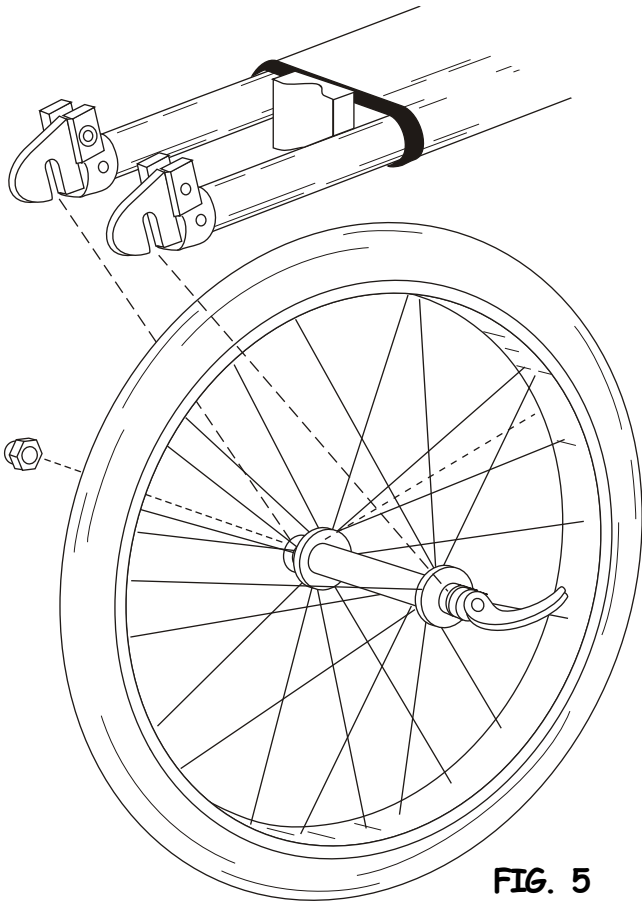
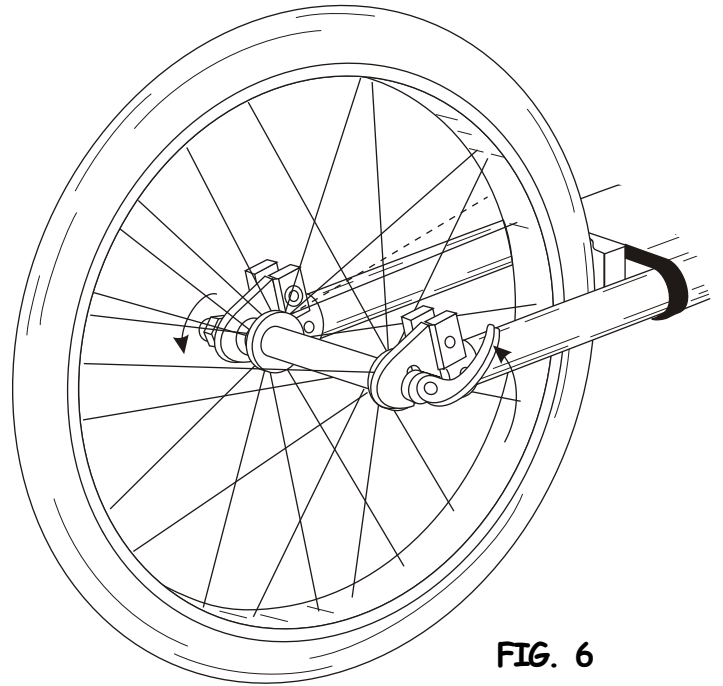

FIG. 5
FIG. 6
A. With cam lever in open position (Figure 5), slide wheel into fork slots and close lever (Figure 6). If lever closes too easily, then open lever, tighten knob, and reclose.